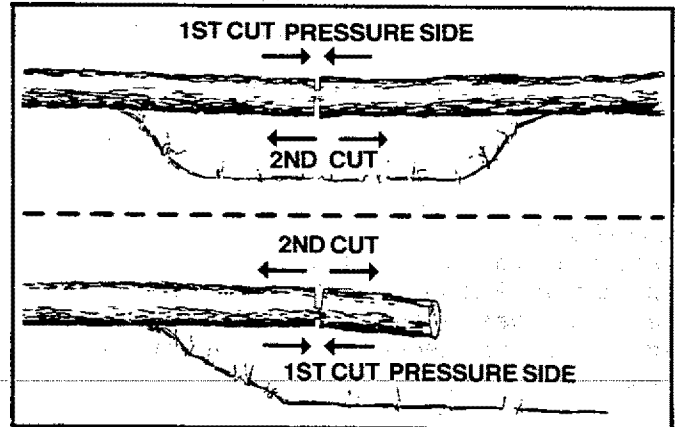

Figure 31
- Give special attention to logs under strain to prevent the saw from pinching.** Make the first cut on the compression side to relieve the stress on the log. (Figure 31)